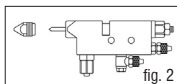

fig. 2
- 5) Unscrew the nozzle with a 9-key or 10-key (see figure 2)